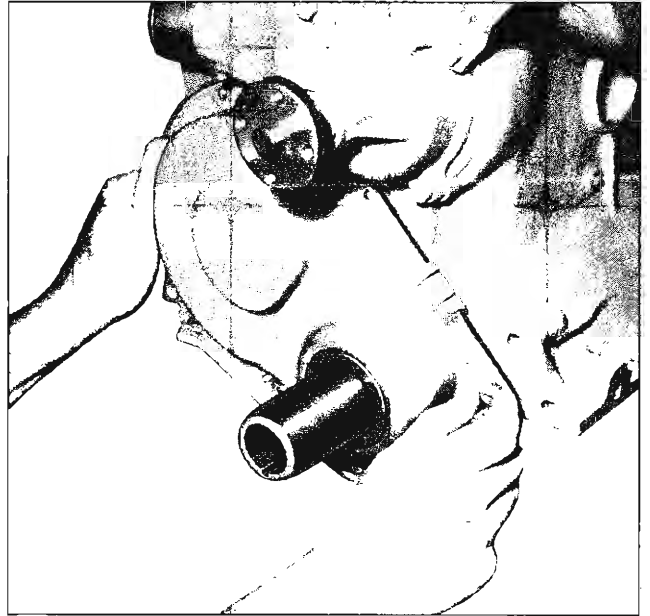
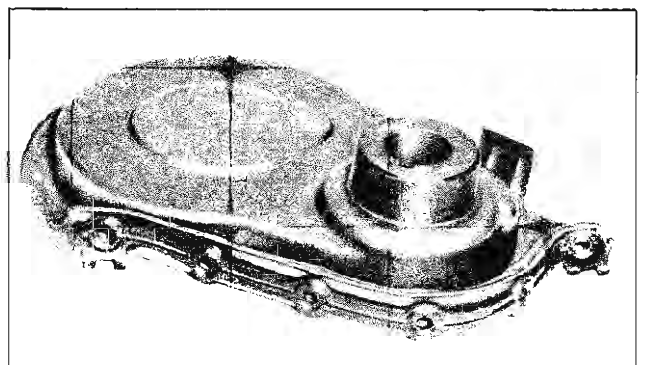

Fig. 16L—Crankcase Front Cover Alignment with J-0966
Fig. 17L—J-21742 Centering Tool in Cover
2. Install centering Tool J-0966 over end of crankshaft (fig. 16L) or install centering Tool J-21742 in crankcase front cover seal (fig. 17L).